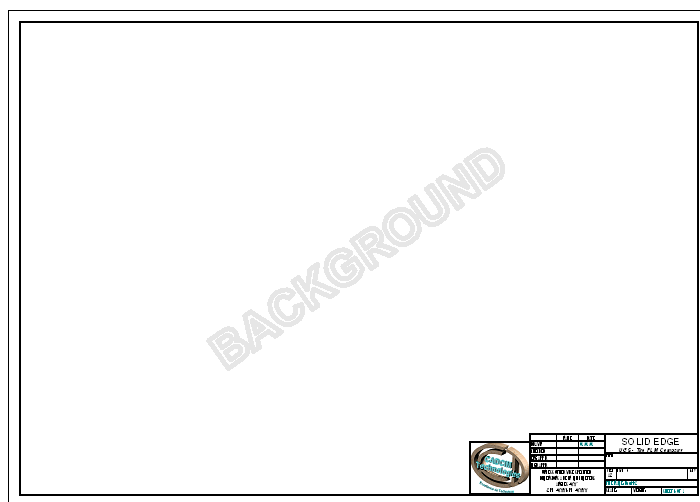

Figure 12-32 Title block with the image
- b. Set up the drawing sheet and the background sheet, refer to Figure 12-32.
10. Browse and select the image file of the logo that you want to use, refer to Figure 12-32.
13. Drag the image and place it, as shown in Figure 12-32. The size of the image can be modified using the handles available on the image, when it is selected.